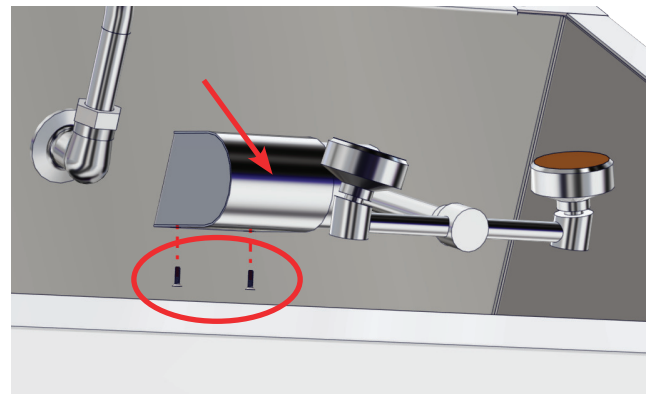

Figure 7: Attach Eye Wash Cover
5. See Figure 7. Attach Eye Wash Cover (SMS0059-01 - red arrow) to the Eye Wash Housing (SMS0058) with two #6-32 x 1/2" Flat Undercut Head Stainless Steel Screws (H0006-05 - circled in red).